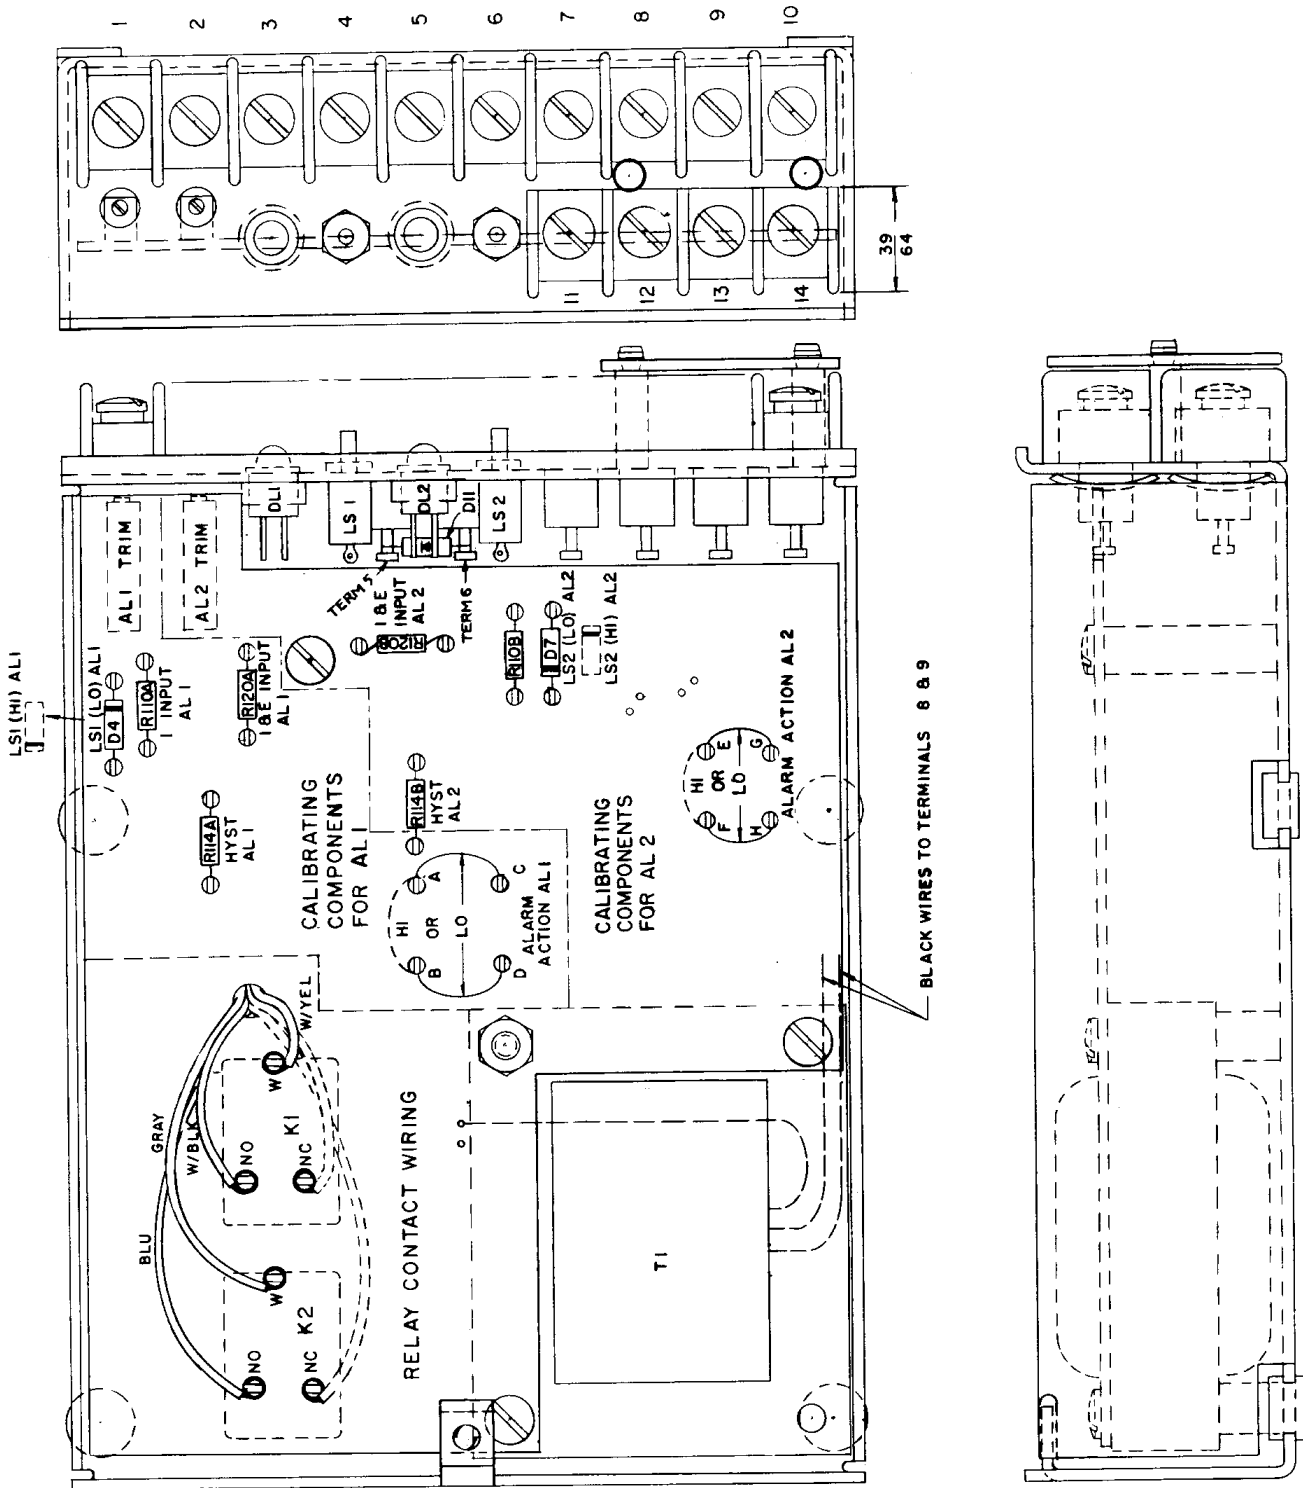

Figure 4-1 - LOCATION OF CALIBRATION COMPONENTS
- 4.2 If a major calibration change is required, the following steps should be followed. (Refer to Figure 4-1.)
See Figure 4-1. The latch is calibrated by connecting D4 and/or D7 in the direction that corresponds to the alarm mode ("Hi" or "Lo" Trip). D4 is for calibrating AL1, and D7 is for calibrating AL2.